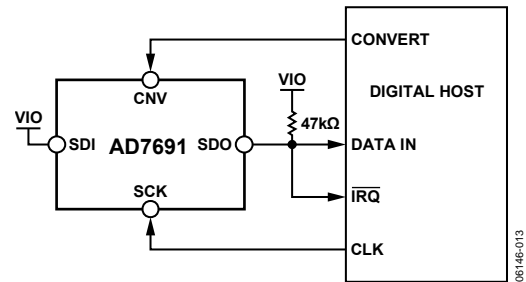
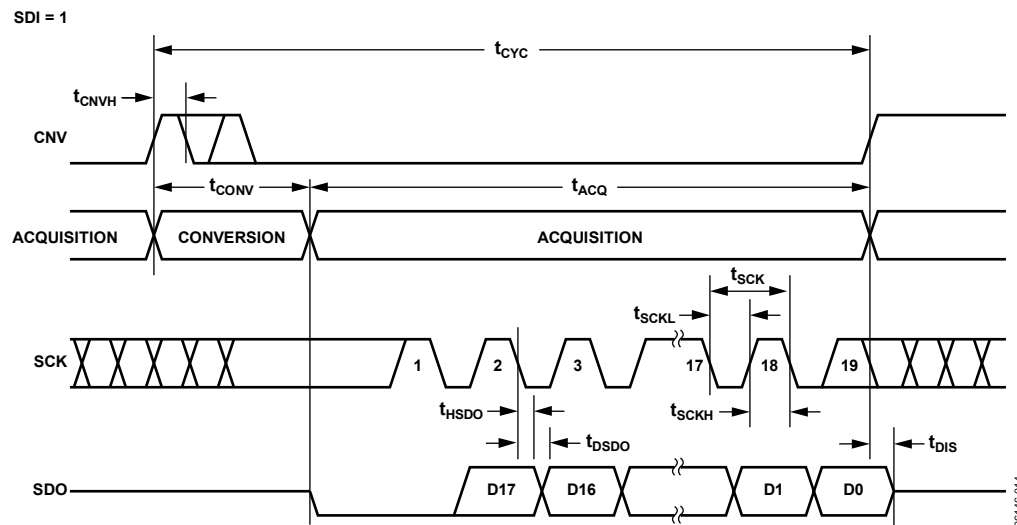
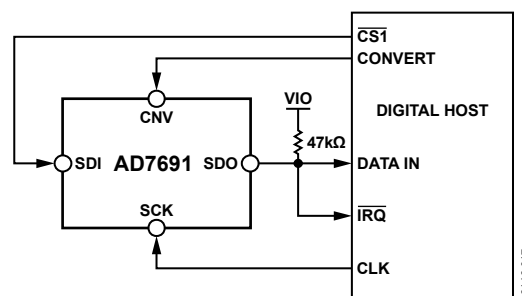
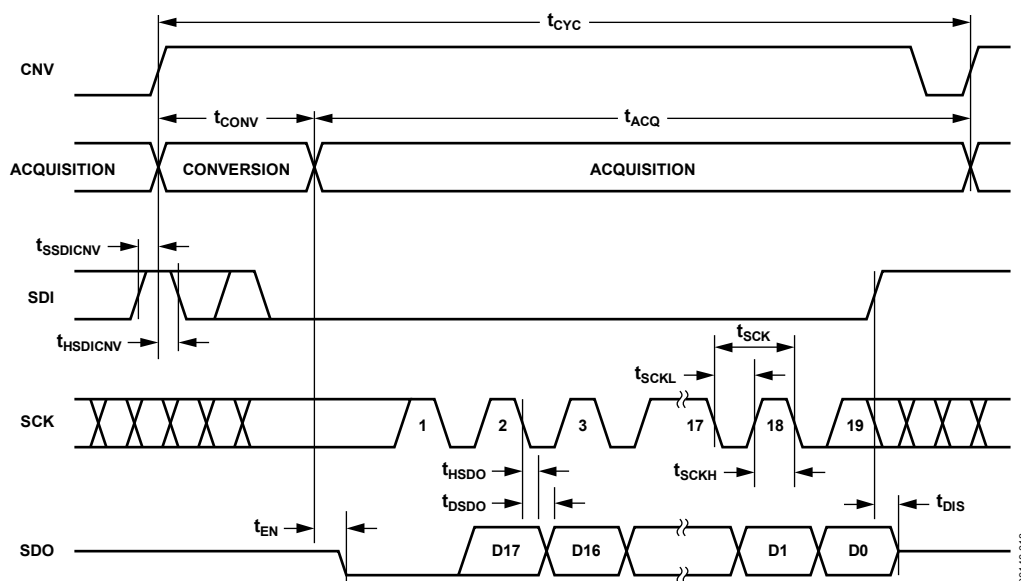

Figure 37. 3-Wire  $\overline{\text{CS}}$  Mode with Busy Indicator Connection Diagram (SDI High)
Figure 38. 3-Wire  $\overline{\text{CS}}$  Mode with Busy Indicator Serial Interface Timing (SDI High)
Figure 41. 4-Wire  $\overline{\text{CS}}$  Mode with Busy Indicator Connection Diagram
Figure 42. 4-Wire  $\overline{\text{CS}}$  Mode with Busy Indicator Serial Interface Timing
- In the  $\overline{\text{CS}}$  mode if CNV or SDI is low when the ADC conversion ends (see Figure 38 and Figure 42).
The connection diagram is shown in Figure 37, and the corresponding timing is given in Figure 38.
The connection diagram is shown in Figure 41, and the corresponding timing is given in Figure 42.